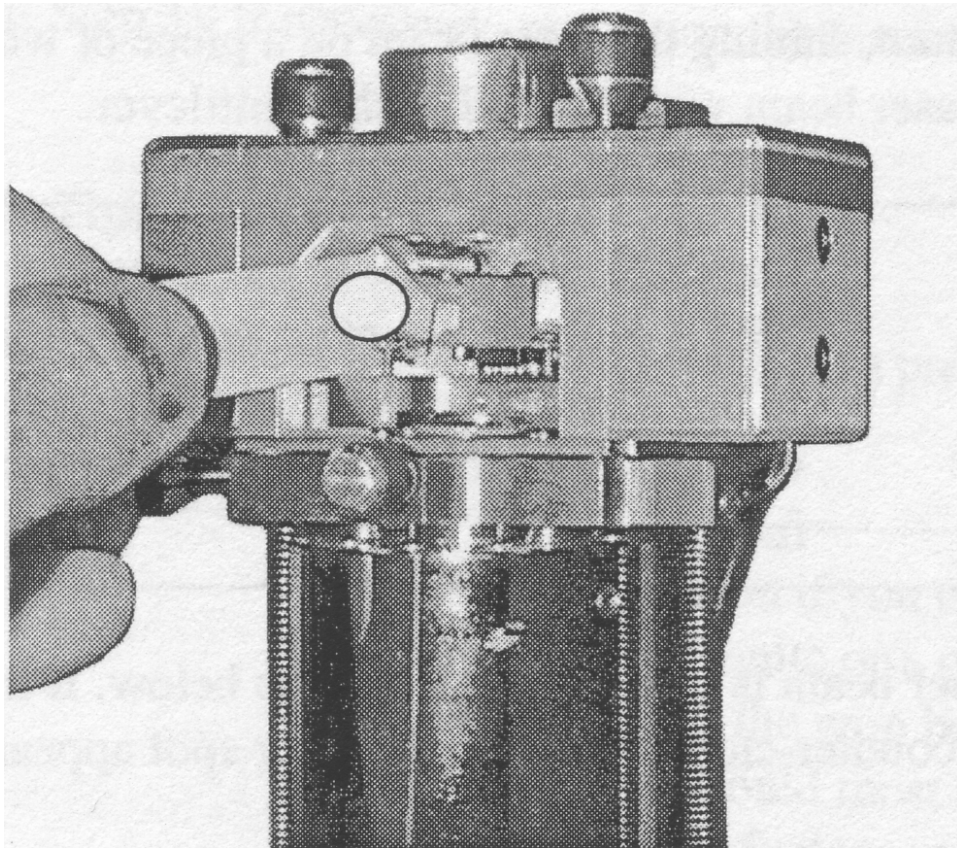
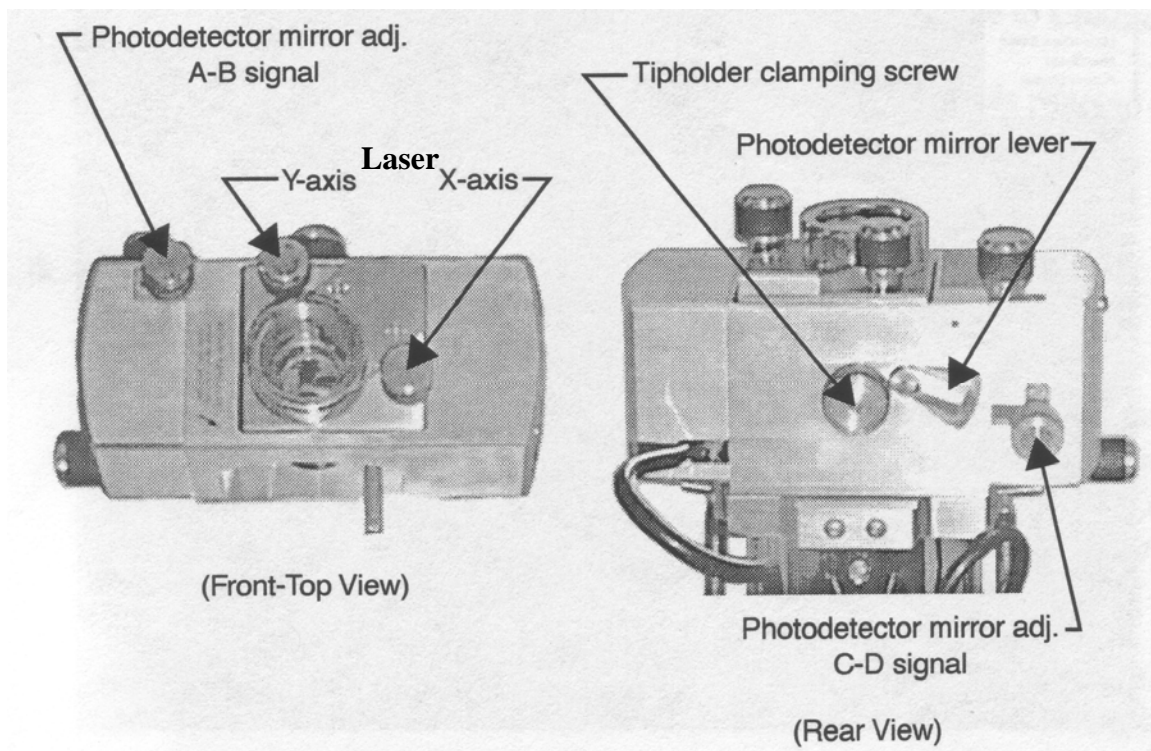

Figure 4
Figure 5
- Put the mirror in horizontal position (see Figure 5).
- Place the laser on the tip using the X and Y axis adjustment (Figure 5, left)
- You can use a piece of paper in order to check the laser alignment (see Figure 4). Adjust the laser reflect using the X-axis and Y-axis screw (see Figure 5) in order to get a intense spot on the piece of paper.